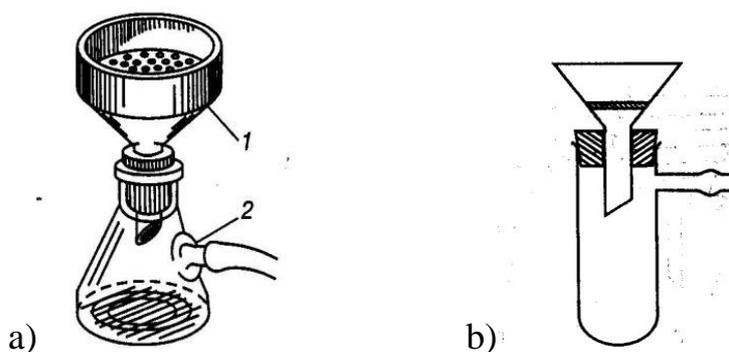

Fig. 3. Filtration a) in vacuum: 1) Bunsen flask, 2) Buchner funnel; b) small amounts of substances
To accelerate and more completely separate the sediment from the filtrate, vacuum filtration is resorted to. In a flat-bottomed thick-walled Bunsen flask, a porcelain Buchner funnel is inserted with a rubber stopper (Fig. 3), which has a flat perforated partition, on which a paper filter is placed. The filter is cut out according to the size of the bottom of the funnel. The vacuum is created by a water jet pump. If the pressure in the water supply system is weakened, water from the pump can get into the device. To avoid this, install a safety flask.
9. The resulting crystals are filtered out using a Buchner funnel and a Bunsen flask (Fig. 3).